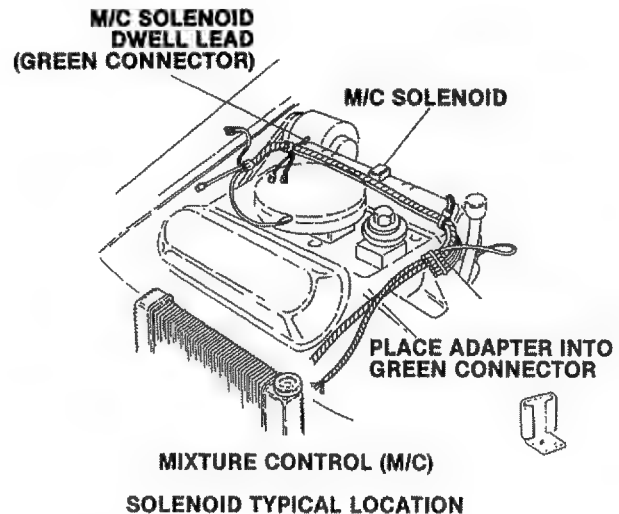

FIGURE 27
Refer to Figures 27 and 28 for location of components and connections.
1. Use the adapter pin as shown in Figures 27 and 28. Connect the GREEN clip from your instrument to the adapter pin.